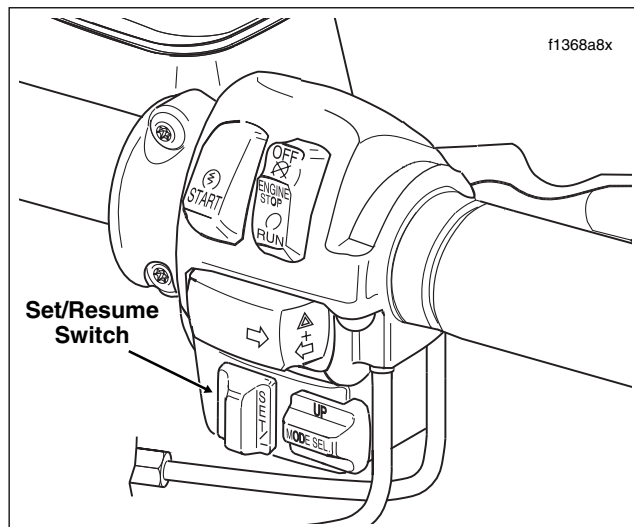

Figure 7-2. Right Handlebar Switch Assembly (FLTR, FLHTCU)
3. With the motorcycle traveling at the desired "cruise" speed (30 mph/48 km/h to 85 mph/137 km/h), momentarily push the Cruise SET/RESUME switch to SET. See Figure 7-2.